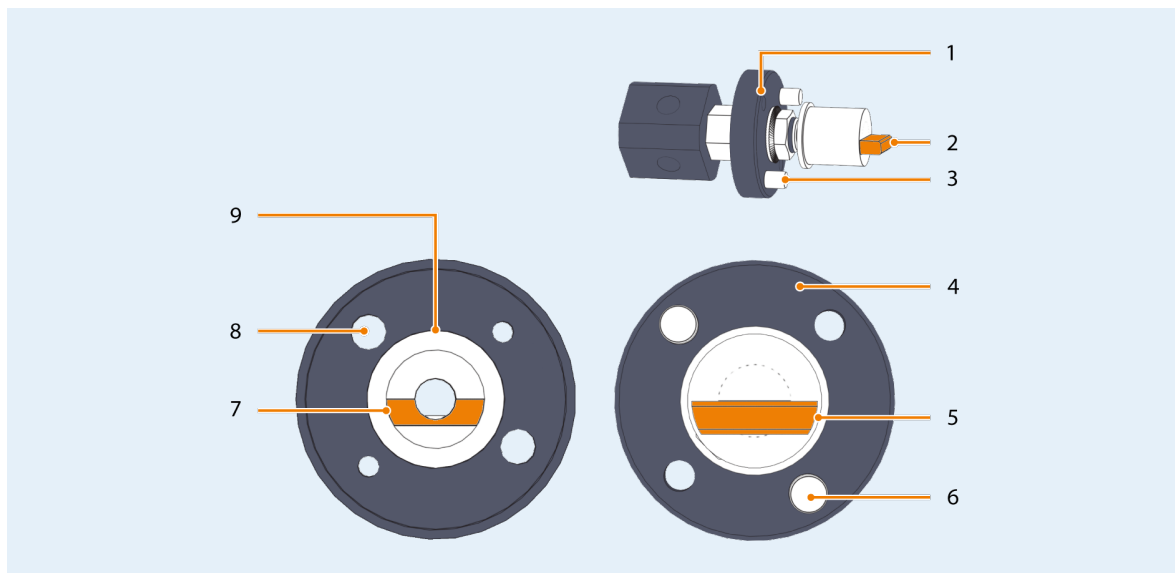

Figure 11.2: Valve and valve drive of the autoMACS NEO Separator (bracket and groove are highlighted in orange)
- 13 Make sure that the bracket of the new valve is positioned horizontally as shown in **Figure 11.2**.